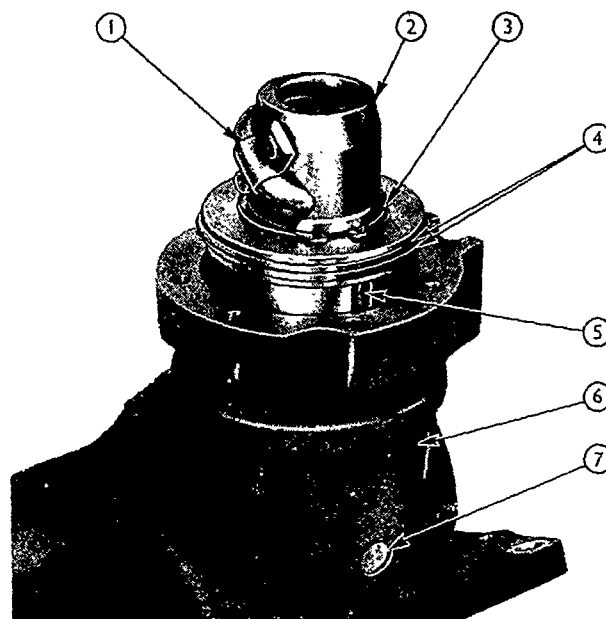

Figure 11
11. Remove the nut and piston assembly and locating peg from the main housing, see Figure 11. Take care not to damage the piston rings as the assembly is withdrawn.
12. Remove the transfer tube retaining bracket, transfer tube, and piston rings from the nut and piston assembly, see Figure 11, and collect the twenty-eight ball bearings from the bottom of the main nut.
3. Renew the "O" ring seal on the locating peg, Figure 11, and reinstall the peg in the main housing.
5. Ensure that the piston circlip, Figure 11, is seated correctly and not cracked or distorted in any way.
1. Align the locating groove in the nut, Figure 11, with the locating peg and slide the nut and piston assembly into the bore using a piston ring compressor; ensure that the piston ring gaps are spaced 180° apart.